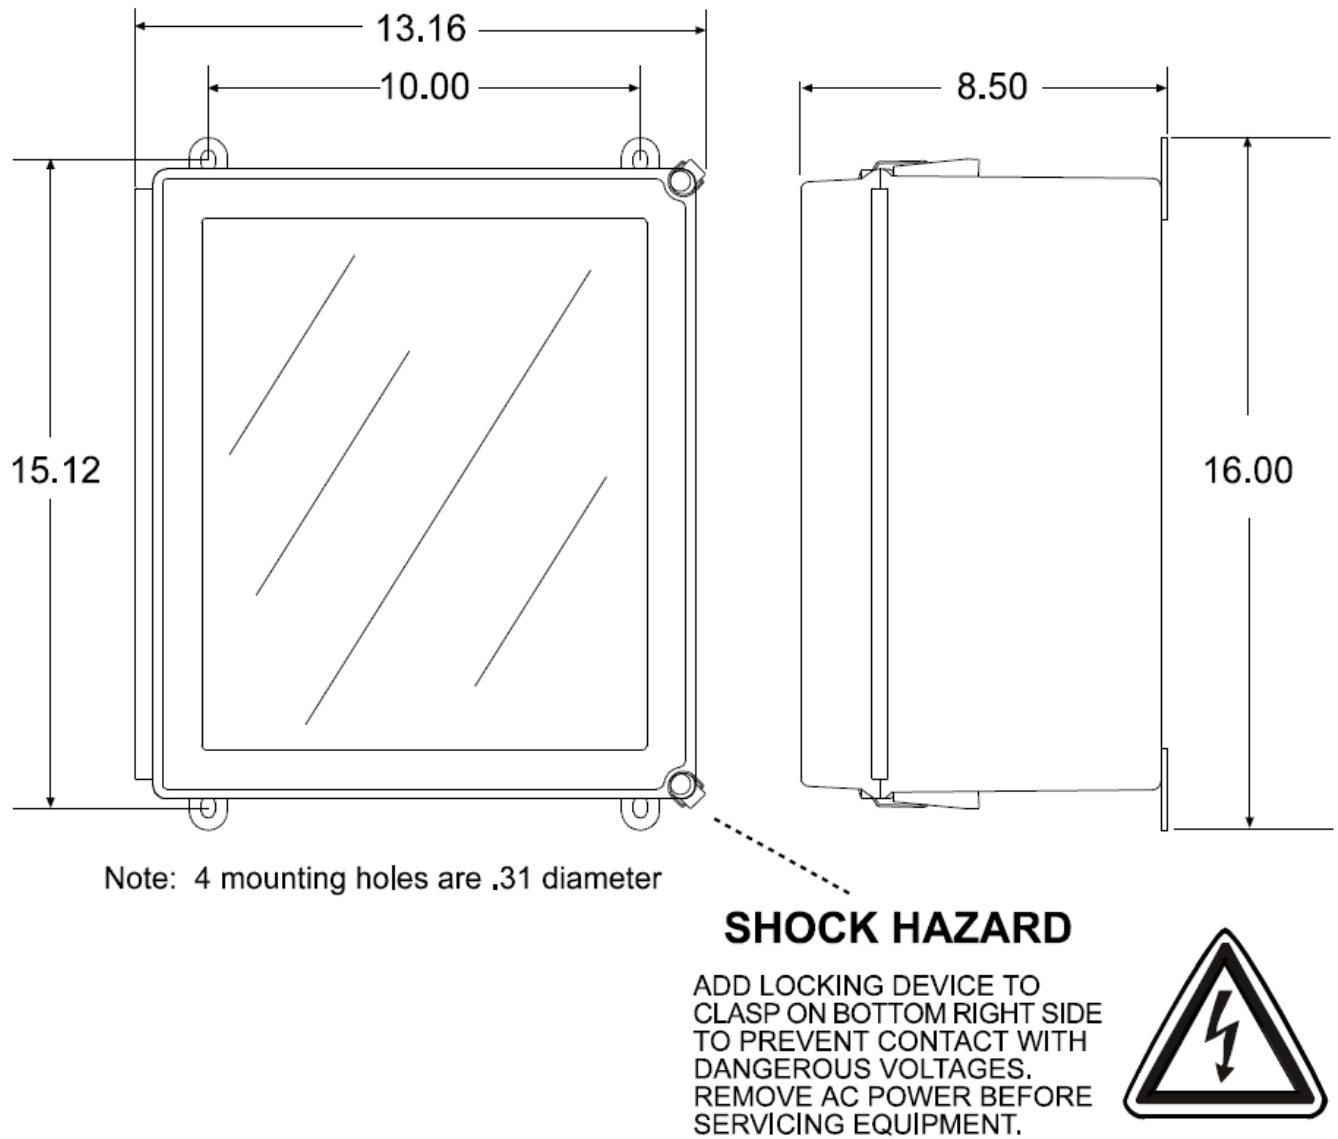

Figure 2-2 NEMA 4X Wall Mount Fiberglass Enclosure
- NEMA 4X wall mount models should be fitted with a locking mechanism after installation to prevent access to high voltages by unauthorized personnel (see Figure 2.2).
- A certified AC power (mains) disconnect or circuit breaker should be mounted near the controller and installed following applicable local and national codes. If a switch is used instead of a circuit breaker, a properly rate CERTIFIED fuse or current limiter is required to installed as per local or national codes. Markings for positions of the switch or breaker should state (I) for on and (O) for off.